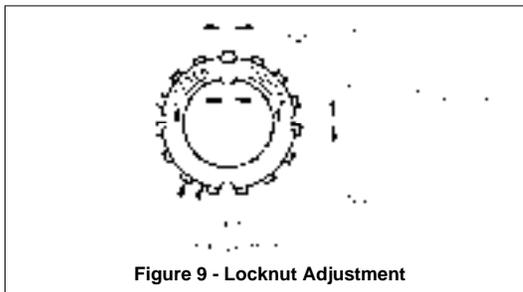

Figure 9 - Locknut Adjustment
- c. After the bottom vanes (14) and push rods (77) are installed, insert the rotor and shaft (13) fully into the cylinder (12).
- d. Install the remaining vanes (14) into the top positions of the rotor. **If equipped with a mechanical seal (153), rotate the shaft by hand to engage the drive tangs of the seal jacket in the rotor slots.**
10. Install the inboard head (20), mechanical seal (153) or lip seal (152), and bearing (24) as instructed in steps 2 through 7. Apply a thin coating of motor oil on the inboard shaft to aid installation.
11. Rotate the shaft by hand to engage the mechanical seal drive tangs (if equipped), and to test for binding or tight spots. If the rotor does not turn freely, lightly tap the rims of the heads (20) with a soft faced mallet until the correct position is found. Install all of the remaining head capscrews (21) for each head (20) and uniformly torque to 25 lbs ft (34 Nm).
It is important that the bearing locknuts (24A) and lockwashers (24B) be installed and adjusted properly. Overtightening locknuts can cause bearing (24) failure or a broken lockwasher tang. Loose locknuts will allow the rotor (13) to shift against the heads, causing wear. See Figure 9.
- f. Tighten the opposite locknut (24A) by hand until it is snug against the bearing (24). Then, using a spanner wrench, tighten the nut the width of one lockwasher tang. Tighten just past the desired tang, then back off the nut to align the tang with the locknut slot. Secure the nut by bending the aligned lockwasher tang into the slot in the locknut. The pump should continue to turn freely when rotated by hand.
- h. On TXV pumps, after adjustment is complete, remove the bearing cover capscrews (28) and 3/8" washers from both ends of the pump.